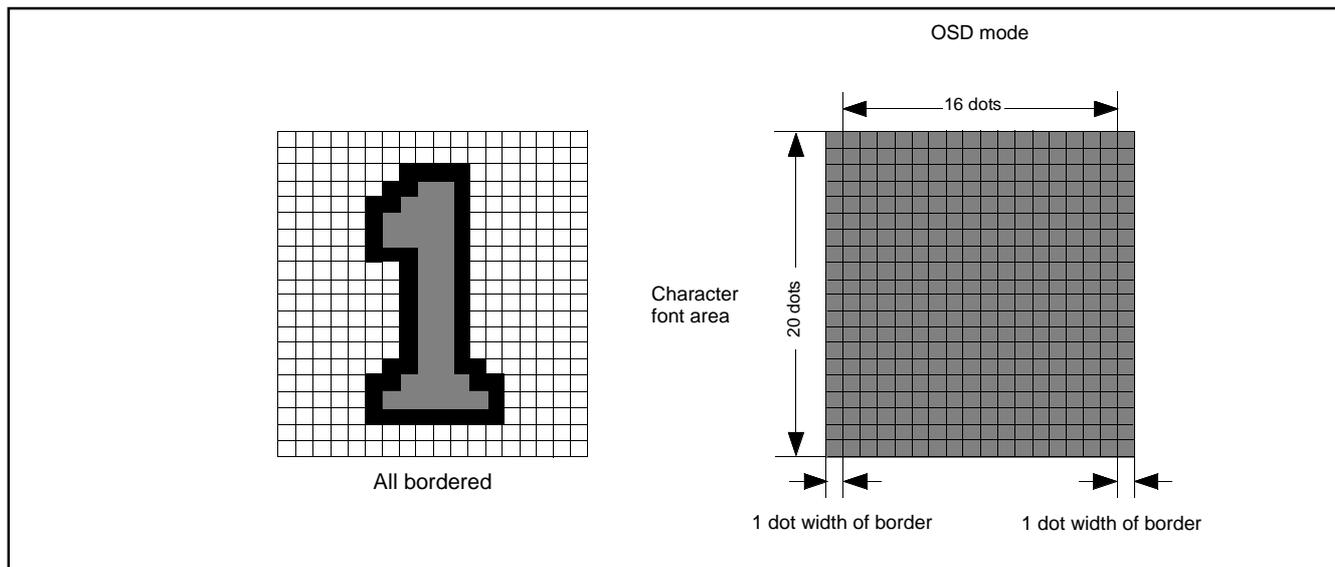

Fig. 8.11.20 Example of Border Display
- Notes 1 : The border dot area is the shaded area as shown in Figure 8.11.20.